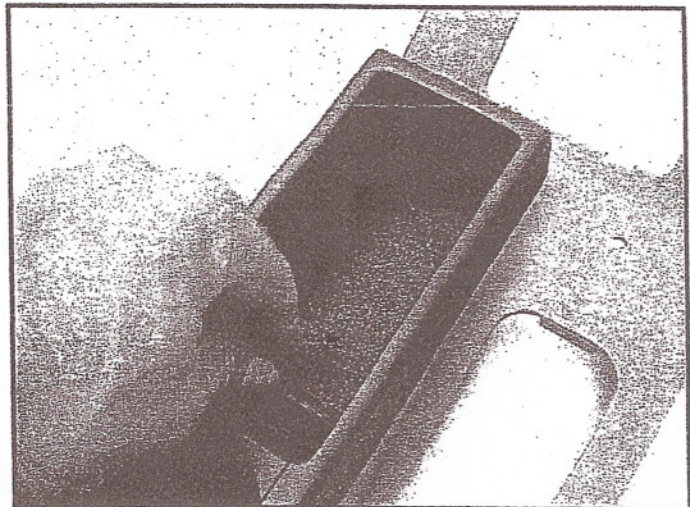

Figure 6
4. Insert the carpet pad as shown in Figure 6. Installation is complete.